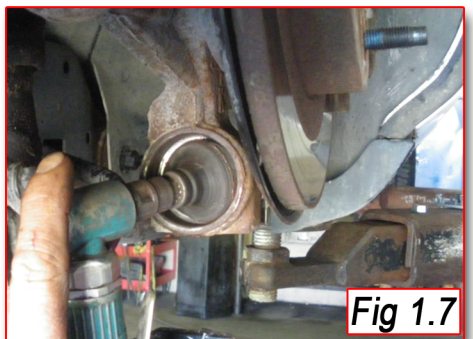

Fig 1.7
7. Thoroughly clean cylinder of all debris. (Fig 1.7) Inspect for nicks or obstructions. Use care not to oversize the diameter.